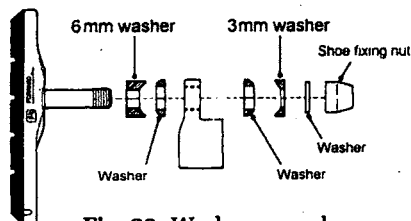

Fig. 20 -Washers may be reversed to correct linear pull arm orientation.
Step 3 Install each brake pad onto the appropriate brake arm, ensuring proper orientation if applicable (see figure 20 for proper washer orientation). Lightly tighten the pad mounting bolts.